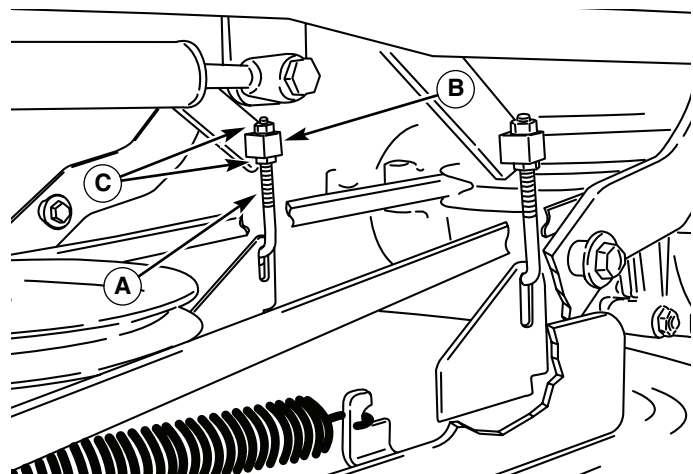

Figure 47. Side-to-Side Adjustment
6. See Figure 47. Side-to-side leveling is accomplished using the threaded rods (A, Figure 47) and trunnion (B) on the right and left rear sides of the mower deck. Loosen the jam nuts (C) and adjust the nuts up or down to adjust the mower level. When complete, tighten the jam nuts against the trunnion to lock the adjustment in place.